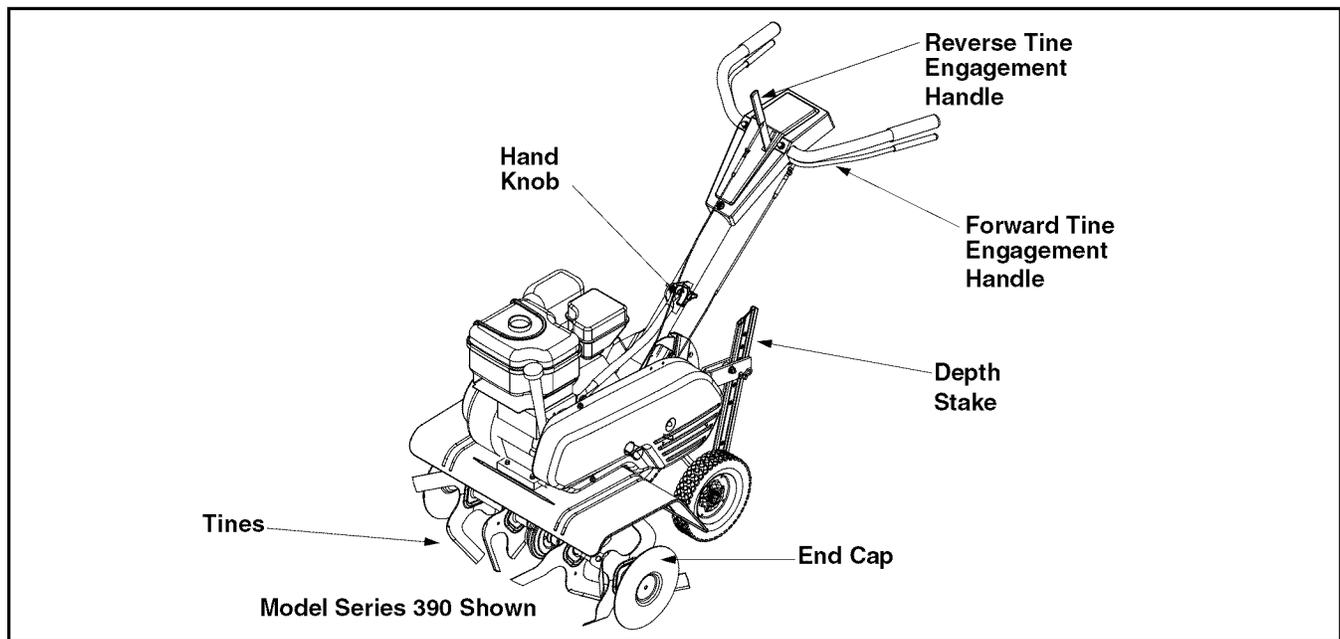

Figure 8
The forward tine engagement handle is located beneath the tiller handle. Squeezing the handle up against the tiller handle engages the tines. Release the handle to stop the tines. See Figure 8.
The reverse tine drive clutch lever is located on top of the handle panel. Pull the lever to the rear to move the tines in reverse. Release the lever to stop the reverse tine drive. See Figure 8.
- Make certain all controls are in the neutral position (released). See Figure 8.
- Push primer two (2) or three (3) times. Wait about two (2) seconds between each push.
**NOTE:** If engine fails to start after three (3) pulls, push primer two (2) times and pull starter rope again.